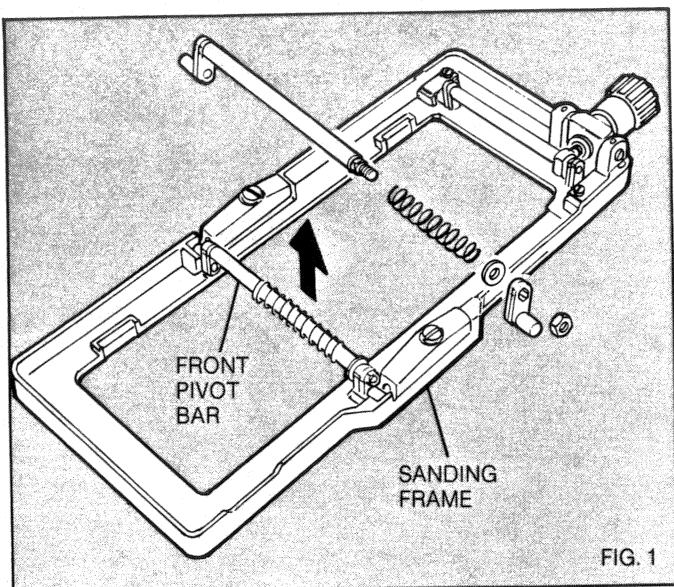

FIG. 1
2. Remove the front pivot bar from the sanding frame and remove the hex nut, flat washer, pivot crank and spring. (see Figure 1)